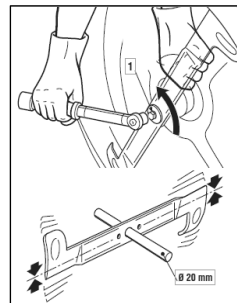

Figure 35
To remove the blade, hold it firmly wearing strong gloves and undo the central screw (Figure 35 ①).